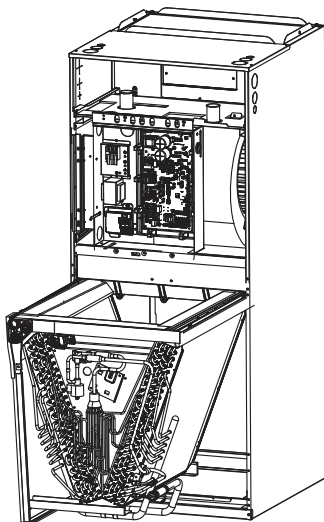

Fig. 8
- (6) Rotate the evaporator for 180 degrees and insert into the upper side of the lead rail. Pay attention to protecting the wirings during the process. (Refer to Fig. 8)